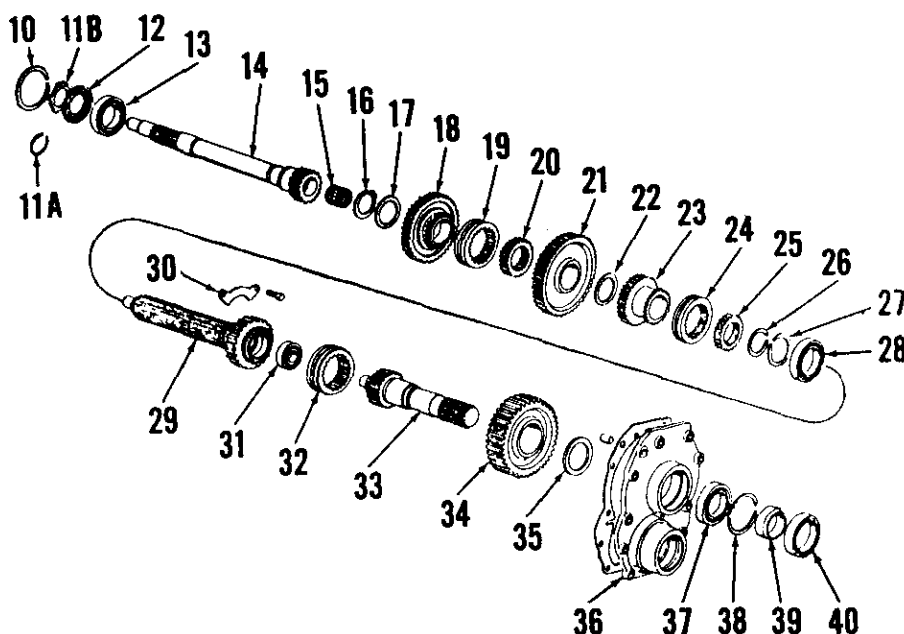
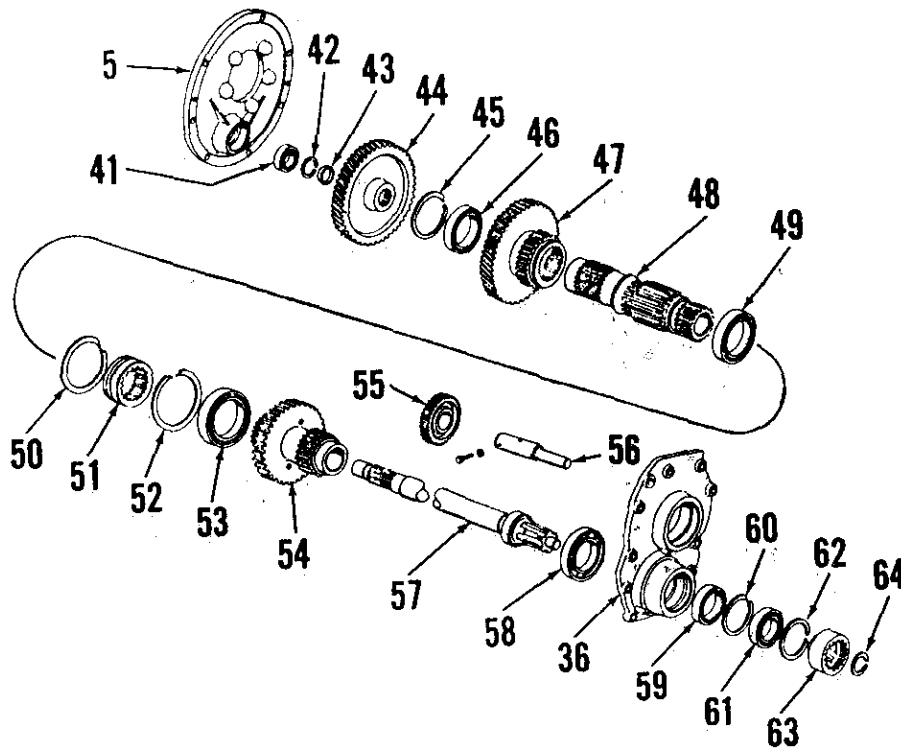

Fig. 193—Transmission upper shafts, gears and associated parts used in six speed models.
Fig. 194—Transmission lower shafts, gears and associated parts used on six speed models with live pto.
On single clutch models, unseat snap ring (10—Fig. 193) and withdraw input
shaft (14) and bearings. On dual clutch models (with transmission removed), remove bearing (41—Fig. 194) using a suitable puller, and unseat and remove snap ring (42). Remove snap ring (64) coupling (63) and snap ring (62) from rear of pto countershaft; then drift countershaft and rear bearing (61) rearward until drive gear (44) can be removed. Transmission input shaft can now be removed by unseating snap ring (10—Fig. 193) and withdrawing shaft and bearing (13). Refer to Fig. 195 for differences between single clutch and dual clutch models.
206. REAR SUPPORT PLATE, PTO DRIVE SHAFT, OUTPUT SHAFT AND SECONDARY COUNTERSHAFT. On single clutch models, rear support plate (36—Fig. 193) and associated parts can be removed after splitting tractor between transmission and rear axle center housing as outlined in paragraph 284. On dual clutch models it will be necessary to remove transmission as outlined in paragraph 202 and front support plate as in paragraph 205.
Remove locking wire and rear cover cap screws. On single clutch models, pry support plate from its doweled position on transmission housing. On dual clutch models, remove pto countershaft front bearing (41—Fig. 194) using a suitable puller; remove snap ring (42), then bump pto countershaft (57) rearward until rear plate (36) is free of dowels. PTO output shaft will be removed with rear plate; remove snap ring (64), coupling (63) and snap ring (62), then bump the pto output shaft rearward out of plate.
Transmission output shaft (33—Fig. 193) and secondary countershaft (54—Fig. 194) will remain in transmission housing. Refer to Fig. 196. Partially withdraw secondary countershaft until front bearing clears housing bore, then lower countershaft to bottom of com-
Fig. 192—Exploded view of front support plate and associated parts used on dual clutch models. Transmission input shaft (14—Fig. 193) will remain with transmission and is not removed with front support plate.
Secondary countershaft front bearing (53—Fig. 194) can be removed from shaft using a suitable press or puller; and two 3/16-2 inch steel rods or bolts inserted in holes provided, to apply pressure to inside of inner race of bearing.
207. MAINSHAFT ASSEMBLY. To remove the transmission mainshaft assembly (29—Fig. 193), first remove transmission from tractor and remove front support plate, rear support plate, input and output shafts and the shift mechanism as previously outlined.
Use Figs. 193 and 197 as guides if necessary, and assemble by reversing the disassembly procedure. Tighten bearing retaining plate cap screws to a torque of 72-96 inch-pounds.
Remove the idler shaft set screw from outside left of transmission housing. Move shaft forward and lift out high speed fork (13—Fig. 190) and its accompanying sliding coupling; then slide shaft rearward while lifting out reverse idler gear (55—Fig. 194).
209. MAIN COUNTERSHAFT. With transmission mainshaft removed as outlined in paragraph 207 and reverse idler removed as in paragraph 208, remove main countershaft (48—Fig. 194) as follows:
Fig. 195—View showing differences in pto drive train in Live PTO models (left) and Transmission PTO models (right). On Transmission pto models, PTO drive shaft (57—Fig. 194) splines into transmission countershaft (48) as shown.